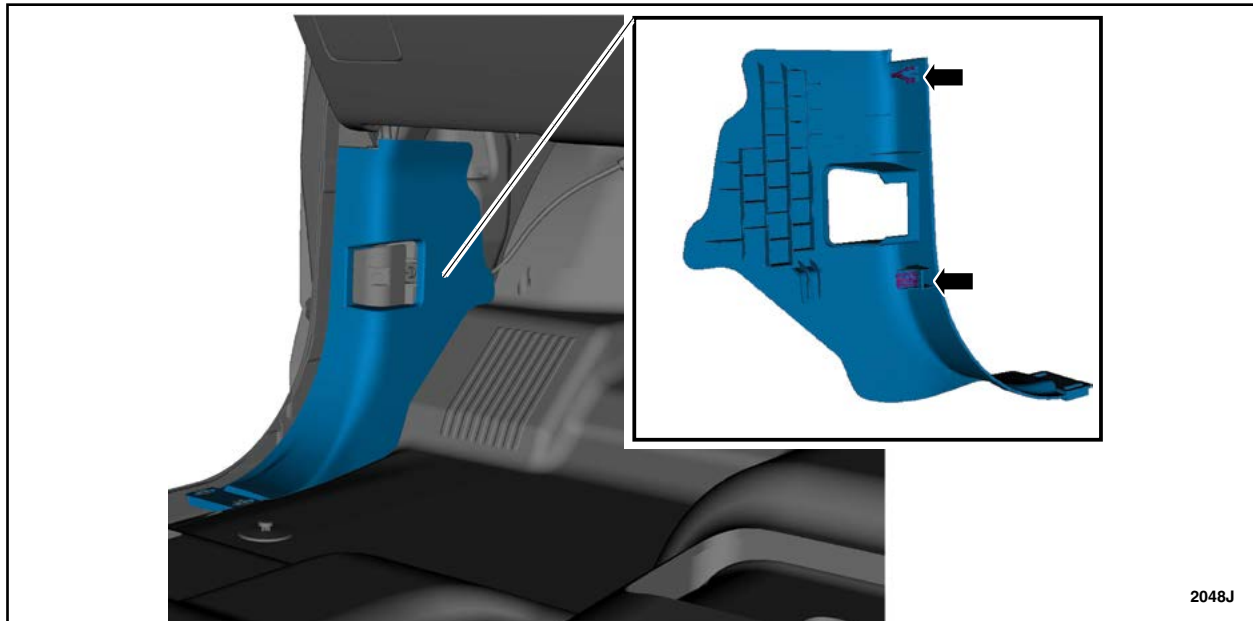

FIGURE 2
2. Remove the front LH cowl side trim panel. See Figure 2.
6. Position the carpet down and install the front LH cowl side trim panel. See Figure 2.